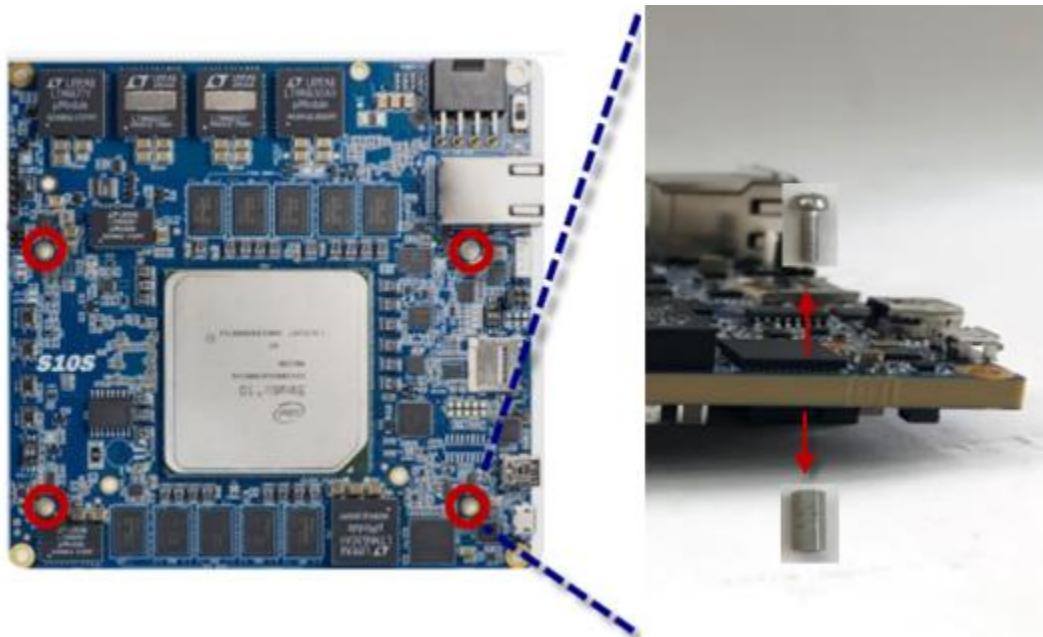

Figure 3-9 Unscrew JSOM-B
3. Unscrew four JSOM-B as shown in **Figure 3-9**.